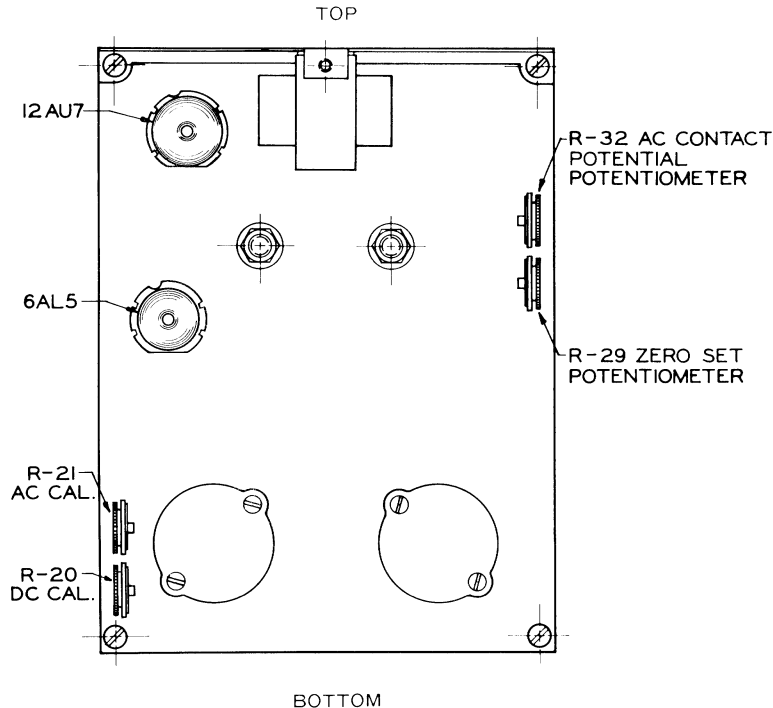

FIGURE 3 BACK VIEW OF PC BOARD
2. Turn the ZERO ADJUST knob to the extreme left and note the position of the meter pointer. Return meter pointer to zero. Turn the function switch at + DC and turn the ZERO ADJUST knob to the extreme right. Note the meter pointer position again. The pointer position should be the same for both polarities. If there is any difference between them, adjust potentiometer R29 until the readings are the same. See figure 3, to help locate potentiometer R29 inside the instrument.
adjust potentiometer R32 to correct it. See figure 3 to help locate potentiometer R32 inside the instrument.
5. Turn the function switch to - DC and set the switch on the probe body to DC again. Connect the probe and ground lead to a known value of DC voltage. Check the meter indication. If it is not correct, adjust potentiometer R20 to calibrate the instrument. See figure 3, to help locate potentiometer R20 inside the instrument.
If it is not correct, adjust potentiometer R21 to calibrate the instrument. See figure 3, to help locate potentiometer R21 inside the instrument.
Two tubes are used in the Model 311-2. One is a type 6AL5, used as a peak-to-peak rectifier for all AC voltages. The other is a type 12AU7, which operates in the bridge circuit for all measurements. See Fig. 3 for location.